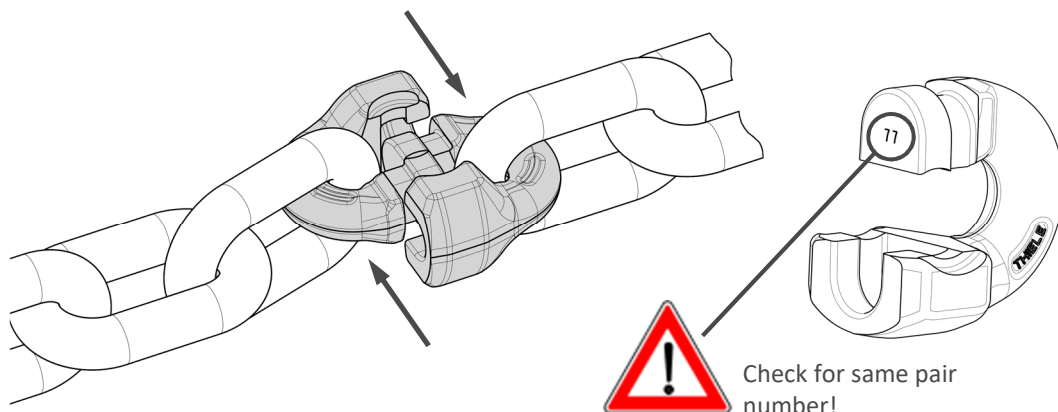

Figure 2: Assemble connector halves
The halves are manufactured as a matched module and should be used together. For simple identification each half is marked by a number (as shown in Figure 2).
- Position the two connector halves and the chain ends to be connected as shown in Figure 2.